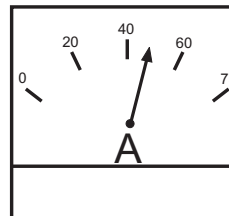

Figure 53. Ammeter (Load)
21. Observe the generator's ammeter (Figure 53) and verify that it reads the anticipated amount of current with respect to the load. Remember the ammeter will only display a current reading if the load is in use.